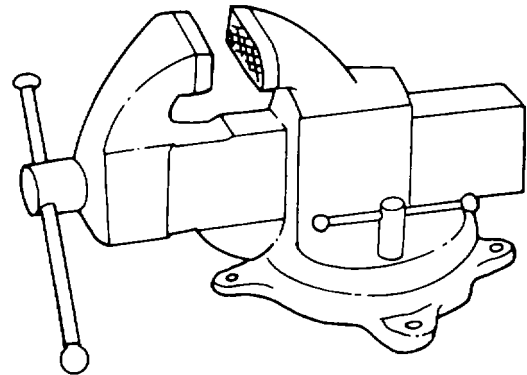

Figure 4-53. Bench Vise
a. **Bench Vise.** The bench vise, shown in figure 4-53, is a large steel vise with rough jaws that prevent the work from slipping. Most vises of this type have a swivel base so that the upper portion can be rotated. The bench vise is usually bolt-mounted onto a bench.